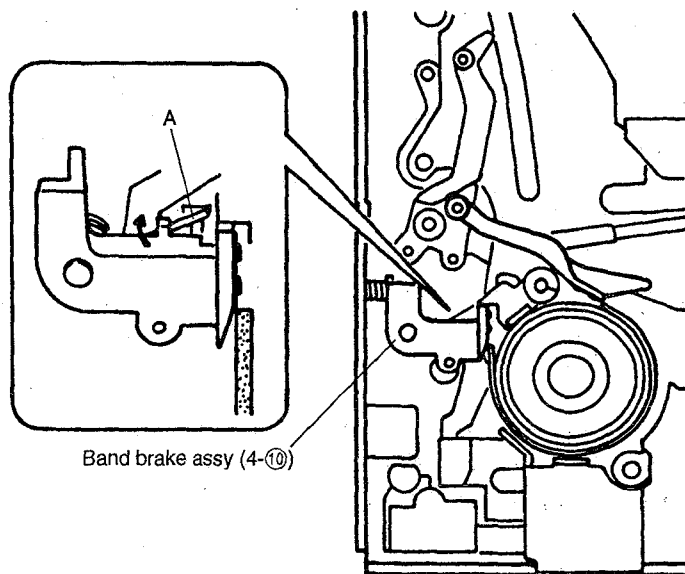

Fig. 8
- 2) After installing Band brake assy (4-10) as shown in Fig. 8, push portion A of Coil spring (4-11) downward with a rod to disengage it, then hook it over the hook of Reel lock lever (5-21).